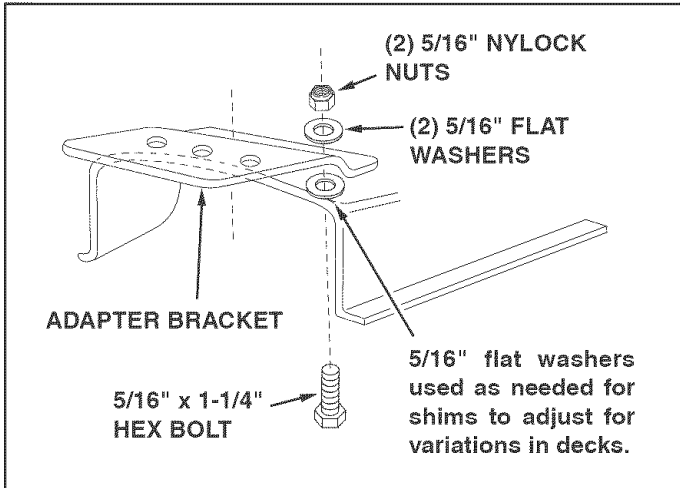

FIGURE 25
- Assemble the adapter bracket to the deck using two 5/16" x 1-1/4" hex bolts, 5/16" flat washers and 5/16" nylock nuts. See figure 25.
NOTE: It may be necessary to use extra 5/16" flat washers to shim under the bracket next to the deck surface. Ten extra washers have been furnished as shims. See figure 25.